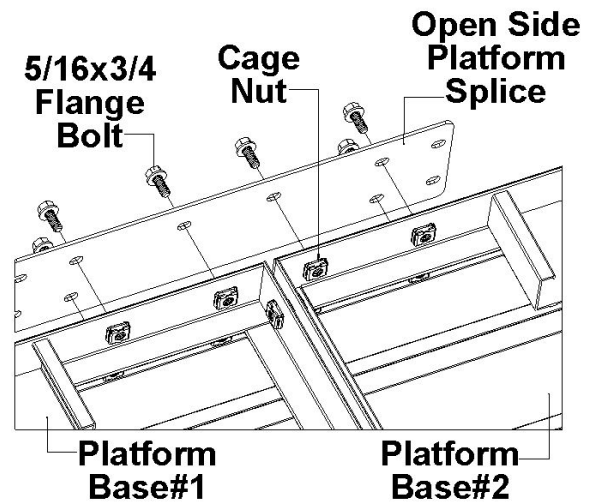

Fig.3.12
3.5 Multiple Platform Base Open Side Assembly: If an open side is required on a multiple base platform an open side platform splice, and some under support brackets will be needed (section 3.4 on page 14). With the under support brackets installed attach the open sided platform splice to each platform by lining up the holes in the open sided splice with the installed cage nuts of the platform, fasten the open sided splice with the 5/16x3/4 flange bolts (Fig.3.12).